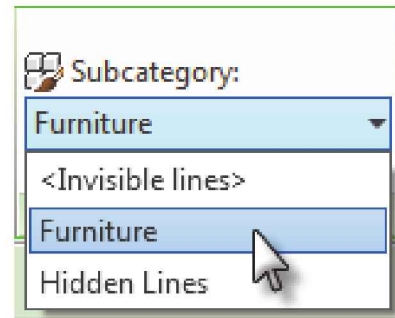

FIGURE 4-1.1 Line Style options
4. Set the line style to **Furniture** (Figure 4-1.1 to the right).